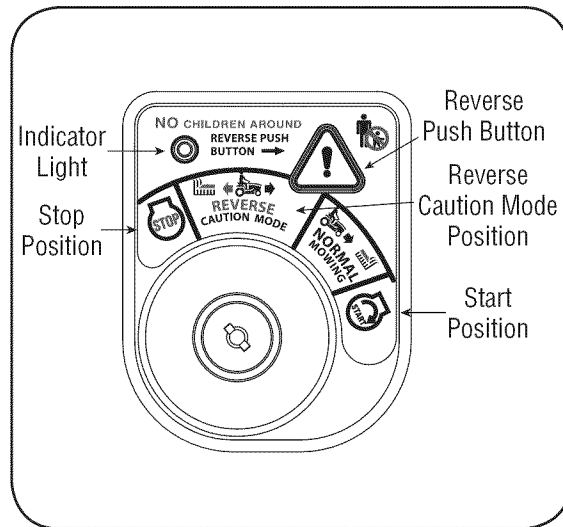

Figure 12
- Turn the key from the **NORMAL MOWING** (Green) position to the **REVERSE CAUTION MODE** (Yellow) position of the key switch module. See Figure 12.
- Depress the **REVERSE PUSH BUTTON** (Orange, Triangular Button) at the top, right corner of the key switch module. The red indicator light at the top, left corner of the key switch module will be **ON** while activated. See Figure 12.